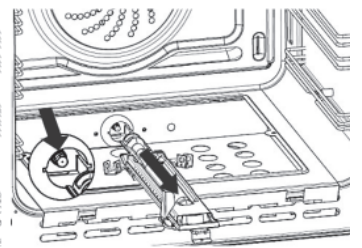

Fig. 32
- Remove the screws of the injector using 7 mm box strainer (shown with an arrow in Figure 32) and replace with a new injector selected according to the «Injector Selection Chart».